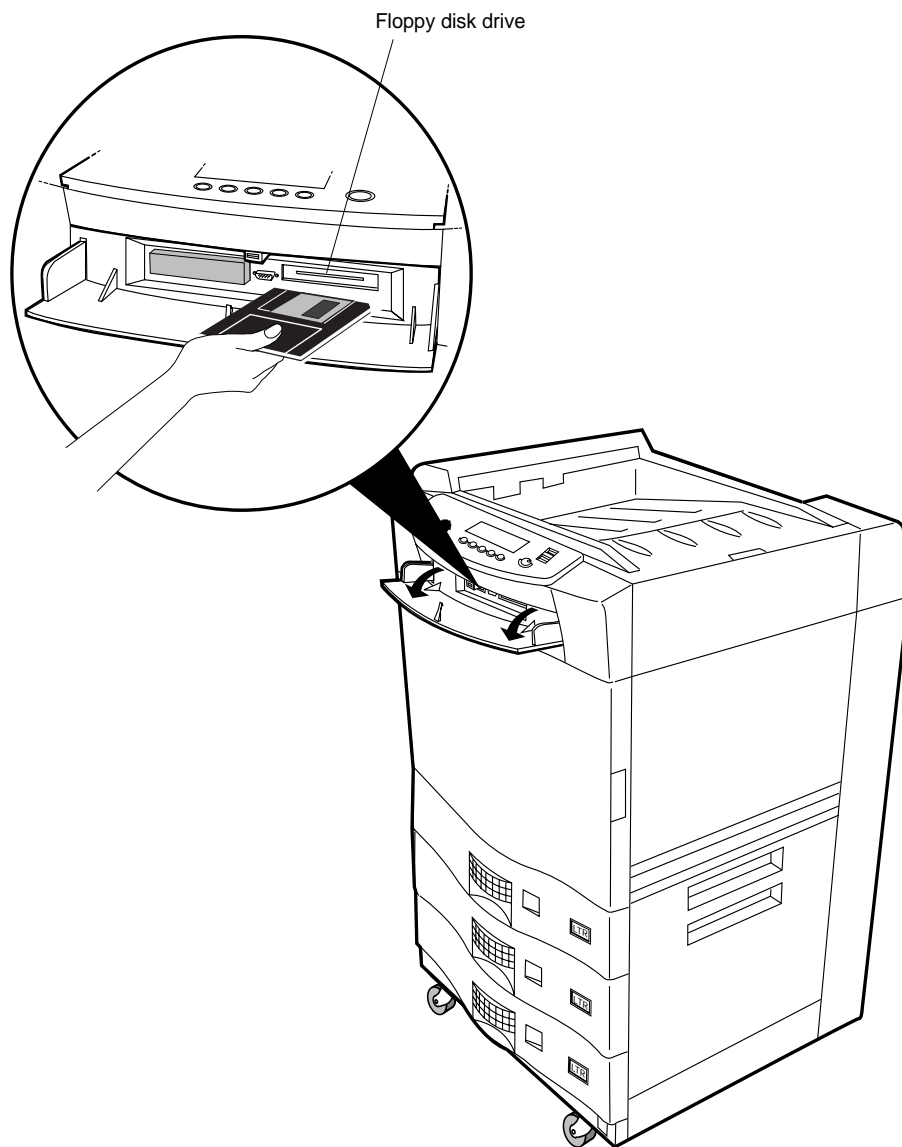

Figure 2-75 Installing Function Code
3. Insert the diskette into the drive as shown in Figure 2-75.